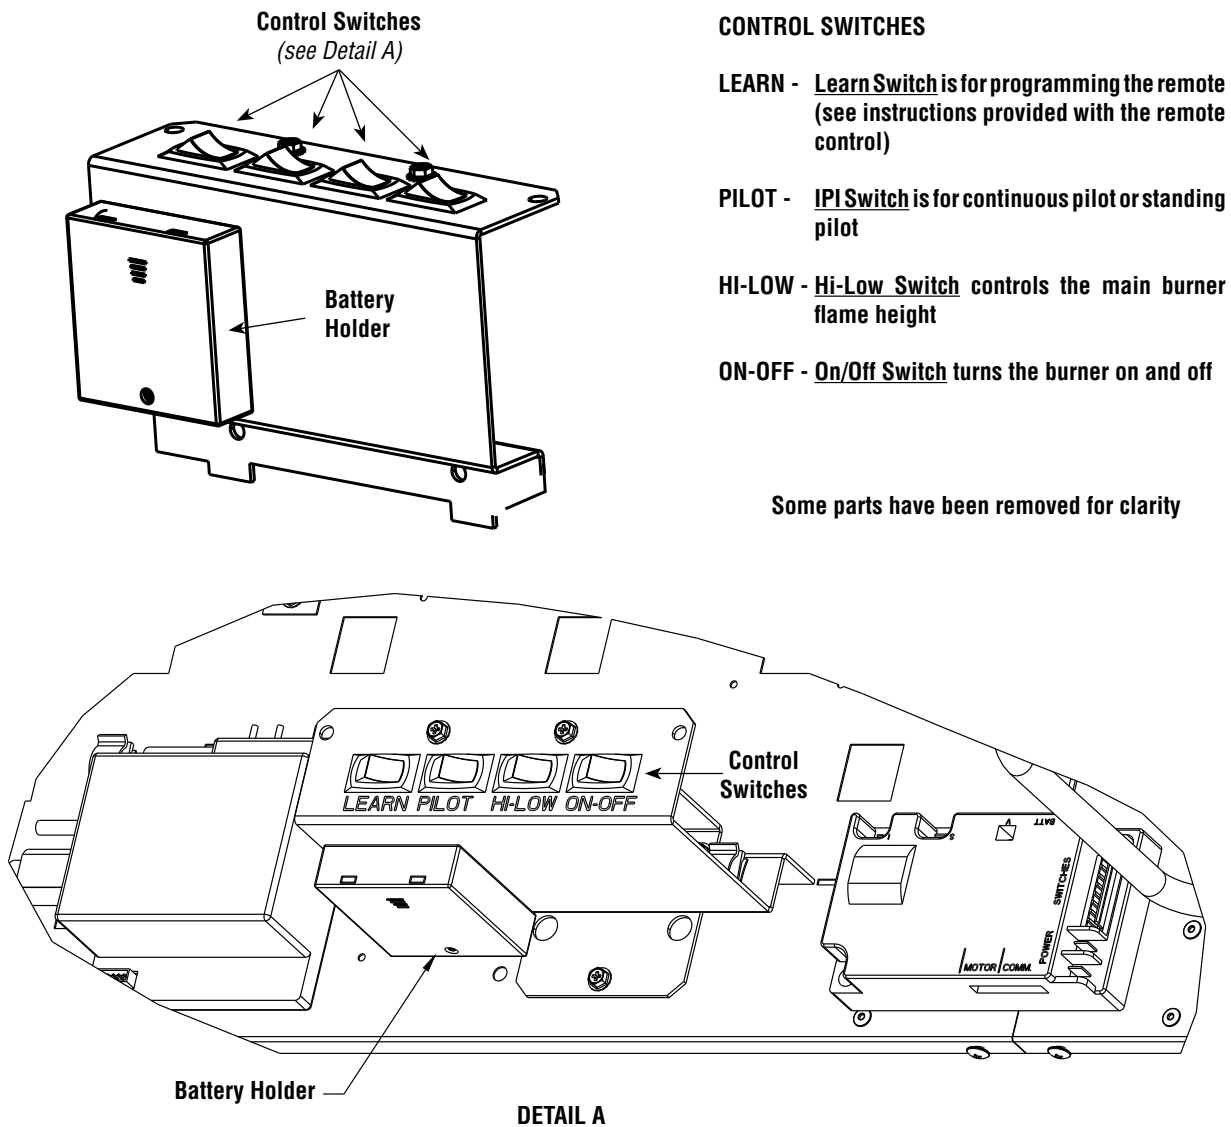

Figure 42 - Battery Holder and Control Switches (in control compartment)
1. Remove the facade and locate the battery holder (see **Figure 42**).
2. Install four (4) AA batteries in the battery holder (see **Figure 42**).